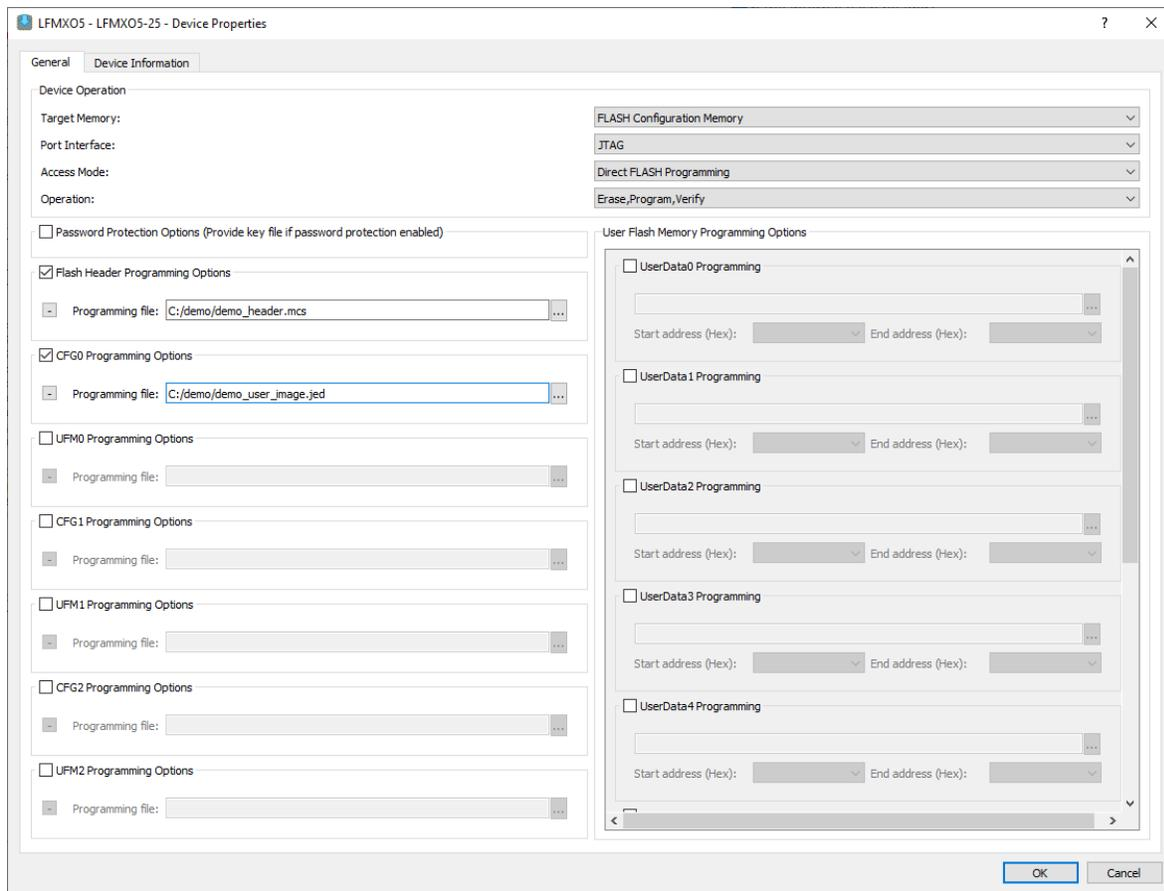

**Figure 7.5. Ping-Pong Boot Options**
5. At the **Options** tap, set the following settings, and click **Next** to proceed (see Figure 7.5):